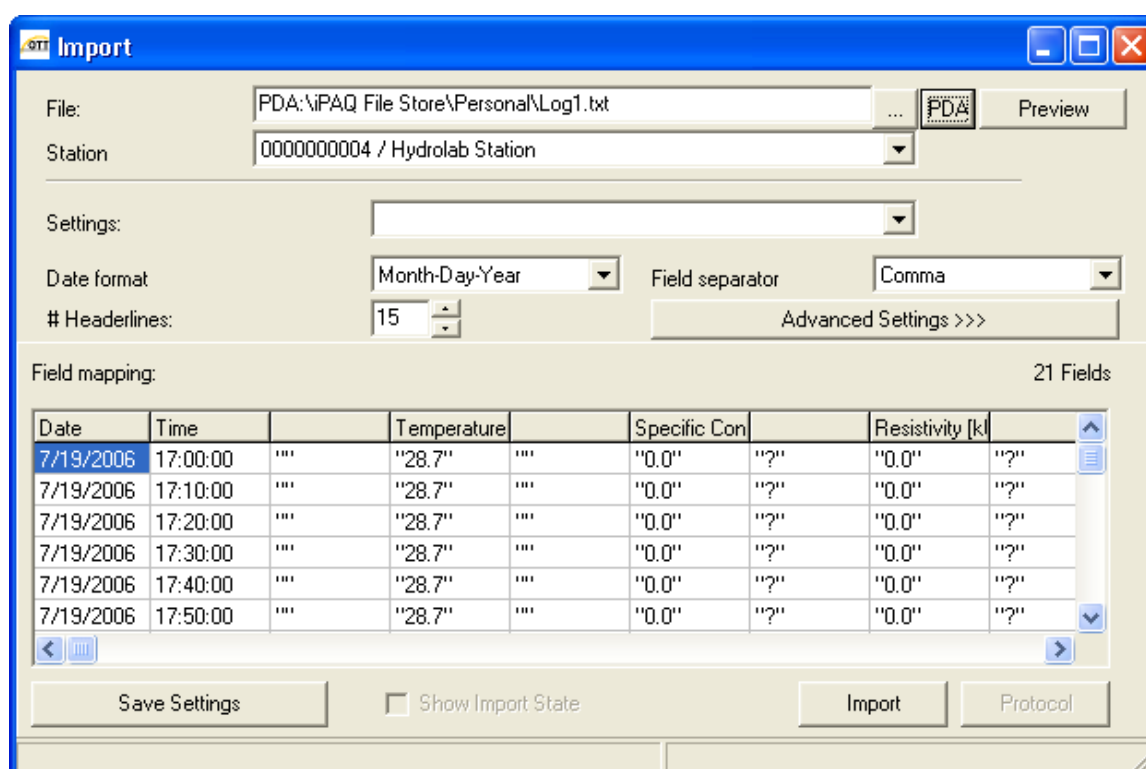
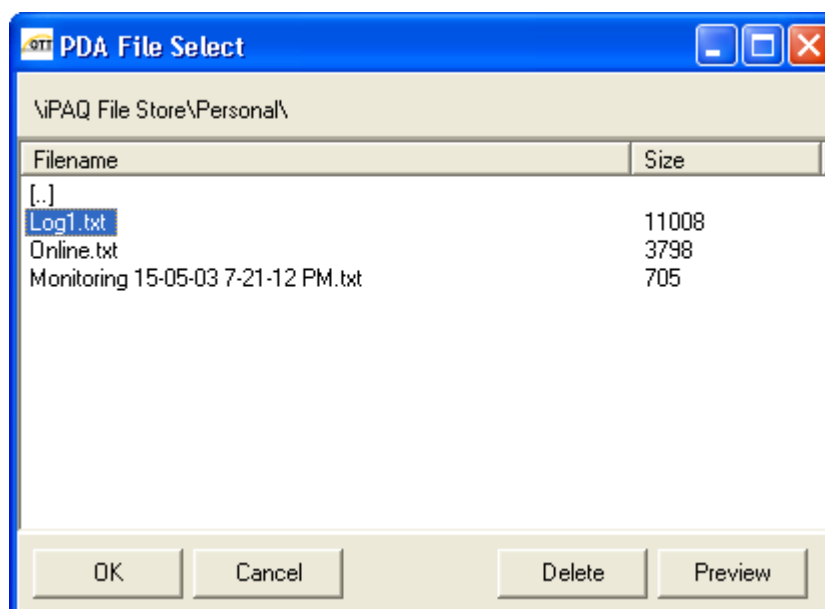

Figure 3 Hydras 3 multi-column import window
Figure 4 Select PDA file window for import to Hydras 3
2. In the dialog window, select **PDA** (Figure 3). A file browser window will open (Figure 4).